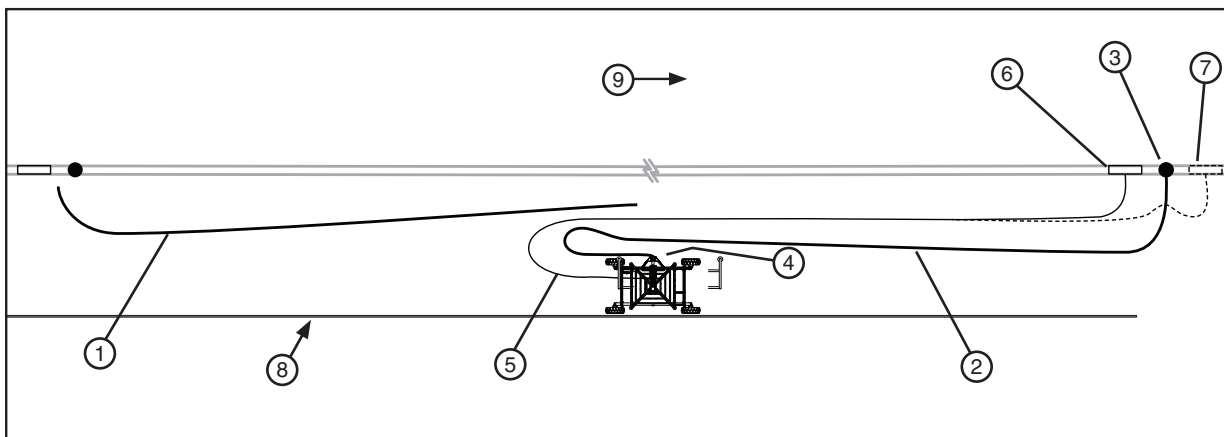

Figure 54-1 1. First Hose 4. Side Inlet 7. Alternate Power Pedestal Location and Electric Cord Position
- If more than one hose is being used, disconnect first hose from side inlet. Connect second hose to next pipeline shut off valve, position second hose, connect and secure to side inlet. See figure 54-1.
- (c) Position the electric cord far enough away from the hose, so that the hose will not drag over it. To prevent interference between the electric cord, cart tires and hose, bury the electric cord in the area where interference will occur or when applicable, position the electric cord over the top of hose. See figure 54-1.